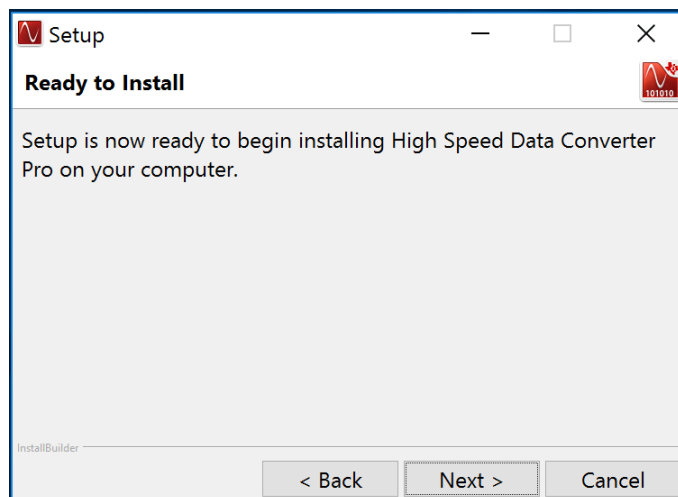

Figure 26. HSDC Pro Install (Installation Ready)
6. Click *Next* to begin the installation, as in Figure 26.